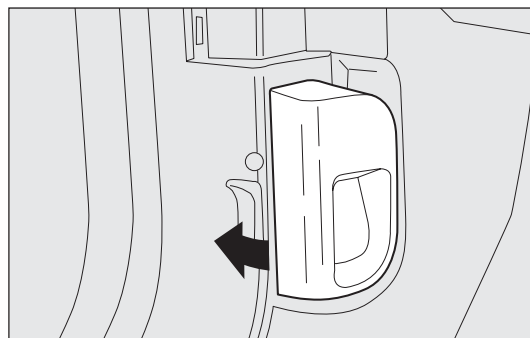

fig. 108
- ☐ pull the lever fig. 108 in the direction of the arrow;